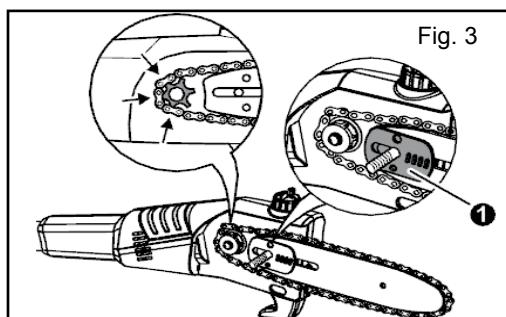

Fig. 3
**NOTE:** Ensure that the chain tensioning plate points forward (Fig. 3 ①).
- Check the position of the bar and chain on the tool (Fig. 3).